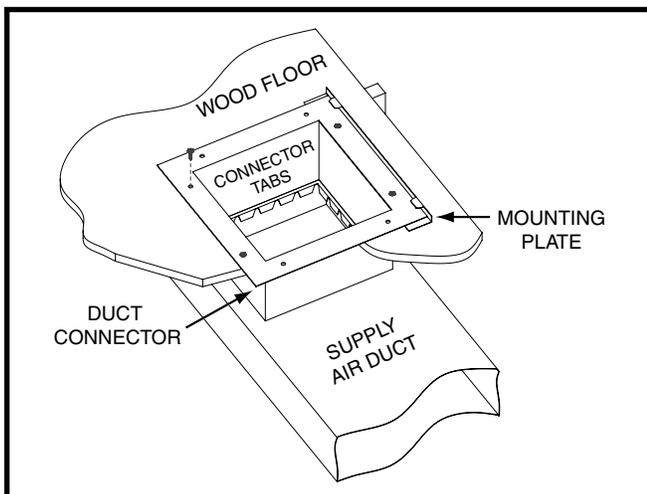

Figure 5. Standard Duct Connector Installed
Duct connectors are recommended for heated air distribution in under-the-floor duct systems. With this system, furnaces may be installed on combustible flooring without a separate sub-base. The furnace rear mounting plate (Figure 5 \(page 7\)) supplied with the duct connectors is recommended for use with this type of installation.
2. Mark the cut-out area on the supply air duct by tracing around the connector tabs of the duct connector. See Figure 5 (page 7).
5. Install the optional mounting plate (Figure 5) under the back side of the duct connector. Align the screw holes in both components.